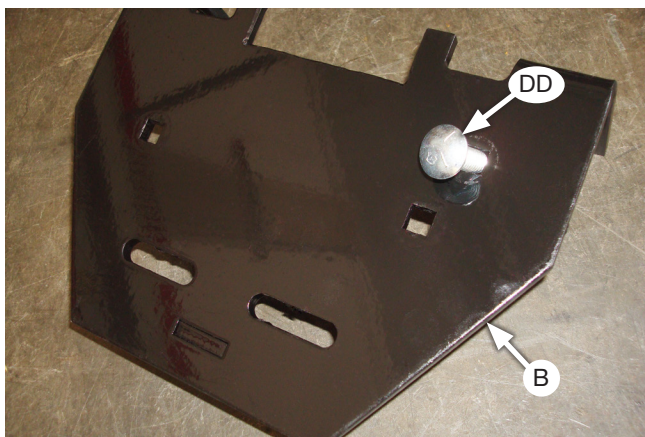
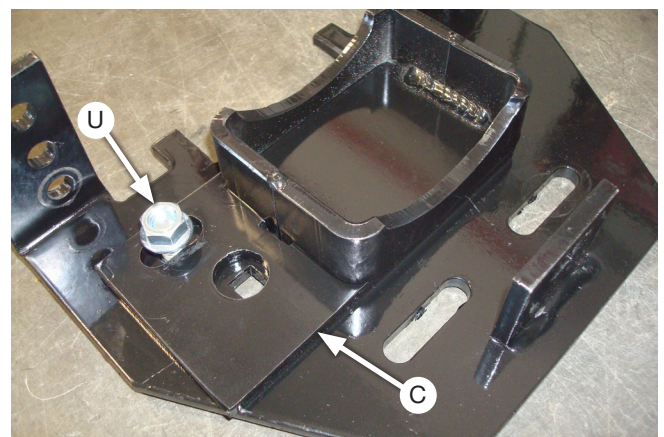

Fig. 10
Fig. 11
4. Insert one (1) 3/8"-16 X 1" carriage bolt (DD) through the top of the lower bracket (B), as shown in Fig. 10. Flip the assembly over and set the lower bracket cup (C) onto the lower bracket and over the carriage bolt (Fig. 11). Cap with a 3/8"-16 serrated flange lock nut (U) and snug the nut only. Leave loose enough for the bracket to move freely in the slot.